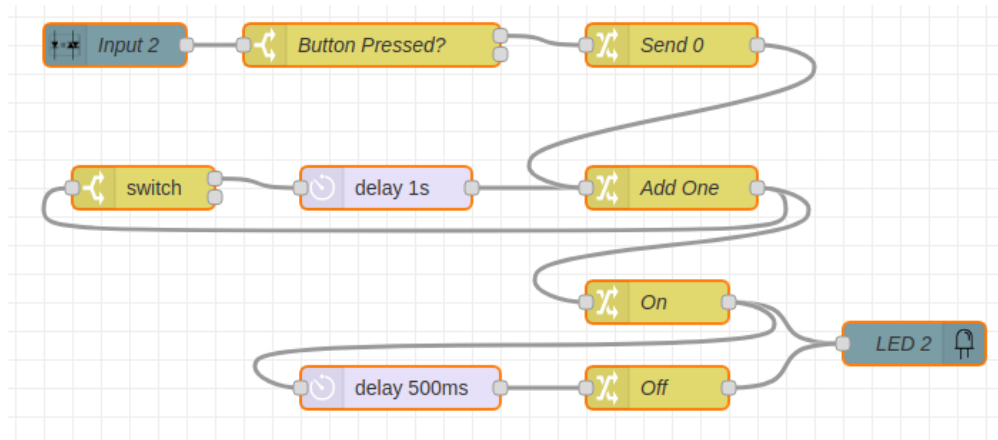

Figure 5-79: Completed Flashing LED Flow
When testing your flow remember that the LED might be on initially, in which case you will only see nine flashes instead of 10. If this offends your sensibilities (and maybe it should because it is a bit of a hole in the specification) then you might consider these extensions to the flow of Figure 5-79.
**Puzzle # 5 - Only One at a Time Please!** – Devise a flow to go between the IN2 button and the remainder of the flow in Figure 5-79 that prevents additional button pushes from initiating the flow until the flow completes flashing LED 2. You will probably need to use a context data variable to block any button push messages that occur before the flow ends. You can set the variable when the button is pressed and reset it with a message from the Switch node output that is not connected.